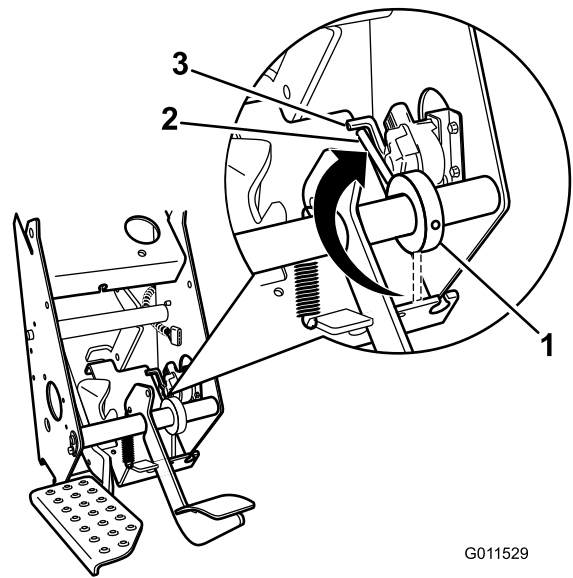

Figure 9
6. Align the collar with the new potentiometer lever (Figure 9). Rotate the collar until the roll pin just makes contact with the potentiometer lever but **does not** displace it. Tighten the set screws to lock the arm in position.